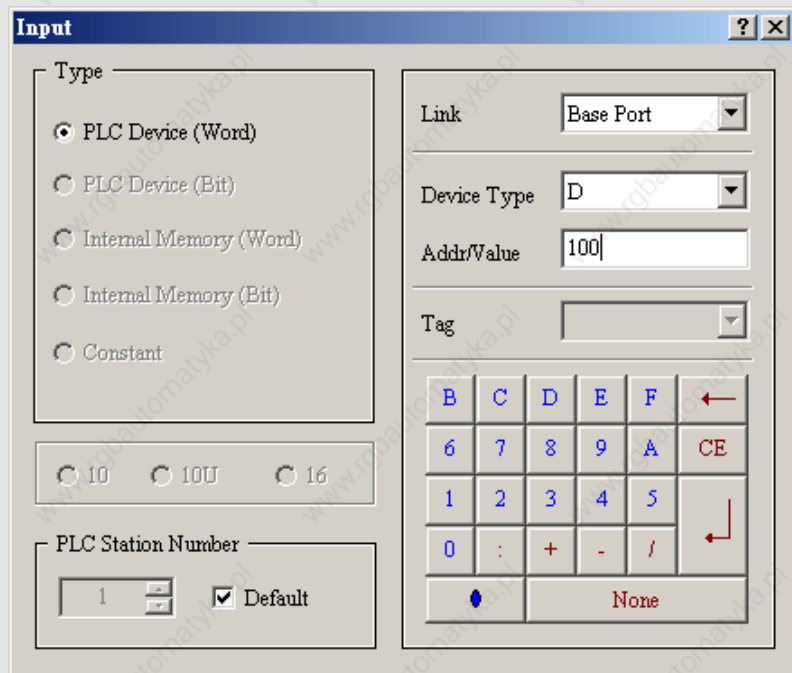

Fig. 2.8.21 Input starting address dialog box
**Address** The users can input the starting address of recipe data here. It can accept the address in PLC input format and internal memory format. The users also can click  button to get the address input dialog box shown as (Fig. 2.8.21) to input starting address.